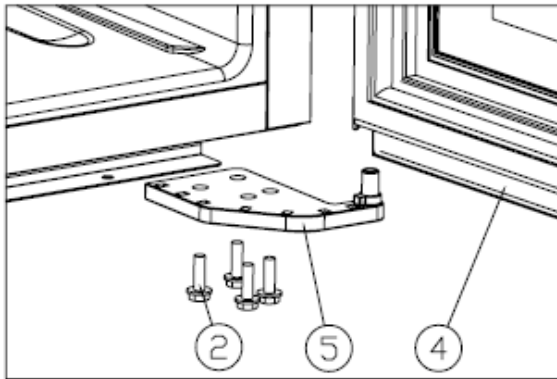

Figure 2
Unscrew the M5*16screws (2), dismantle the right lower hinge (5). [Figure 2]